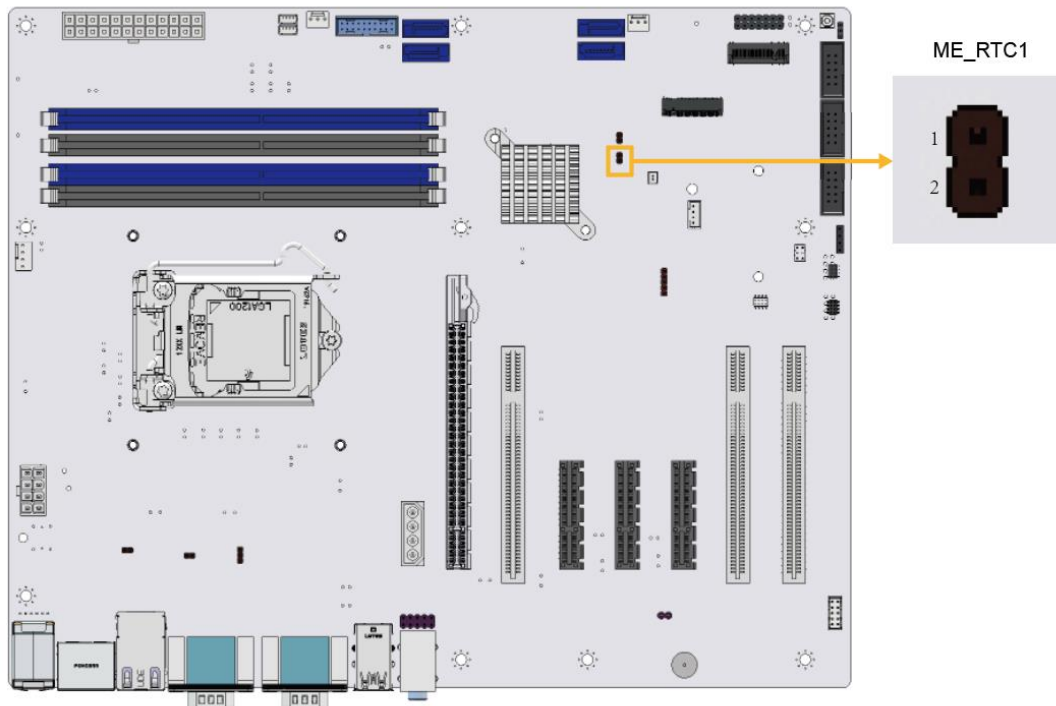

Figure 3-13: Clear ME Jumper Location
- CN Location:** See Figure 3-13